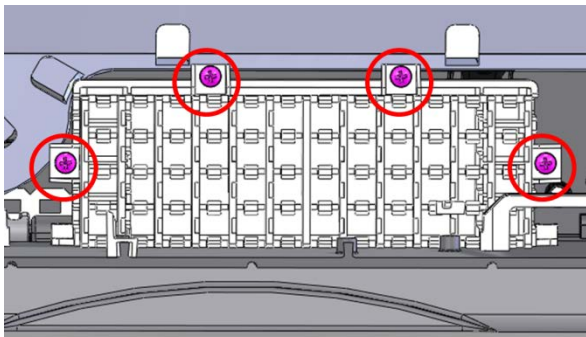

Figure 23
- 1.6.1 Unscrew the parking support for the splitters (Fig. 23). Maintain the screws in a safe place in order to attach them back in place at the end of the installation.